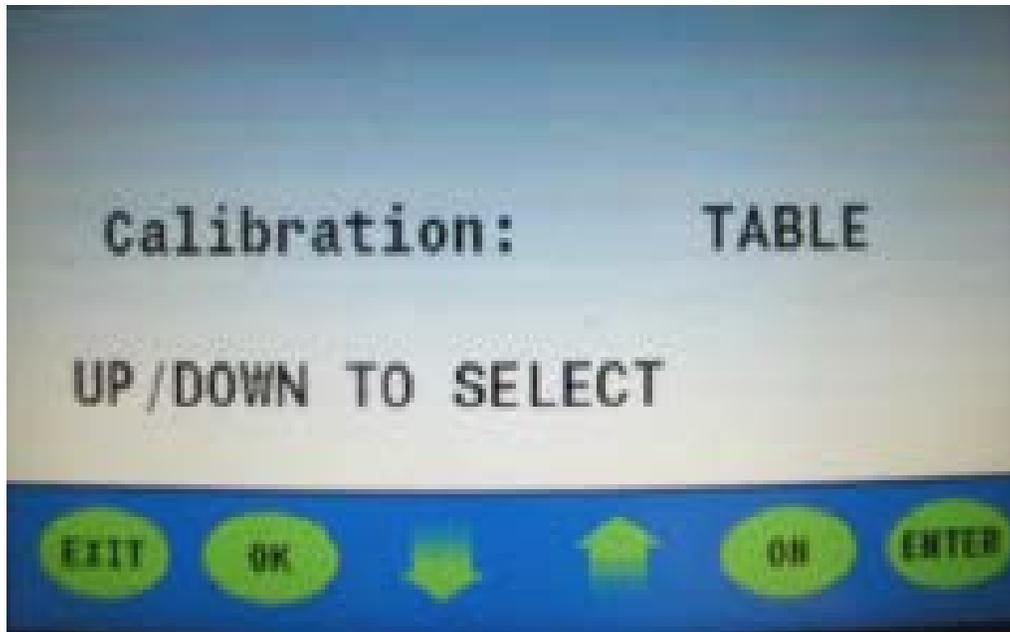

Figure 5
8. Press the **up** or **down arrow** to set the last value in the number sequence, “0” to “8.” Press the **Enter button**; the display will read: “Calibration: Table” (**figure 5**).